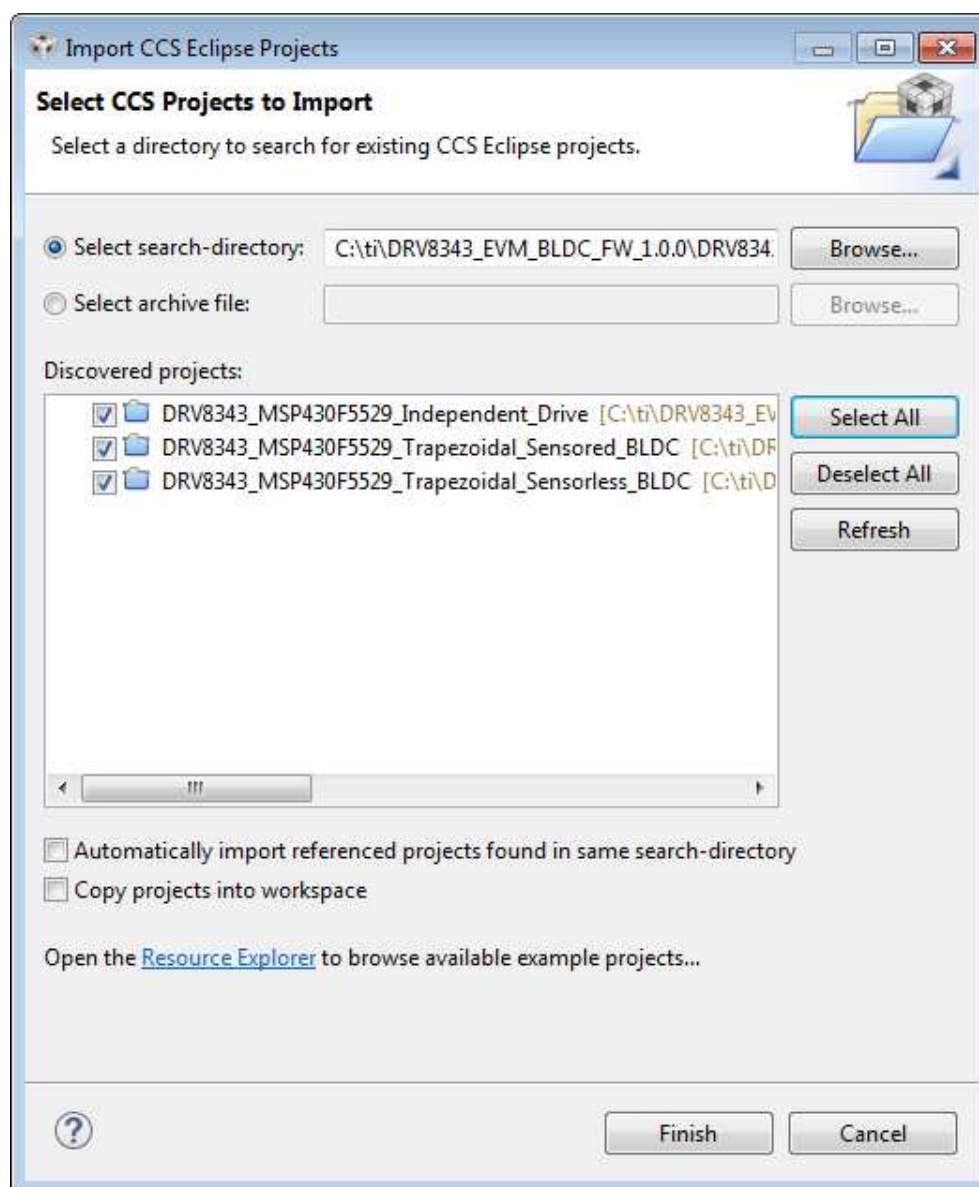

Figure 22. Select Projects to Import
- Step 5. In the new window that appears showing the import options, click the *Browse...* button and find the provided projects through the folder browser. These projects are located in the SDK installation directory. The default location of the root folder is under C:\ti (see Figure 22). When selected, the provided project appears under *Discovered Projects*.
- Step 6. Make sure the correct box is checked and then click the *Finish* button (see Figure 22).